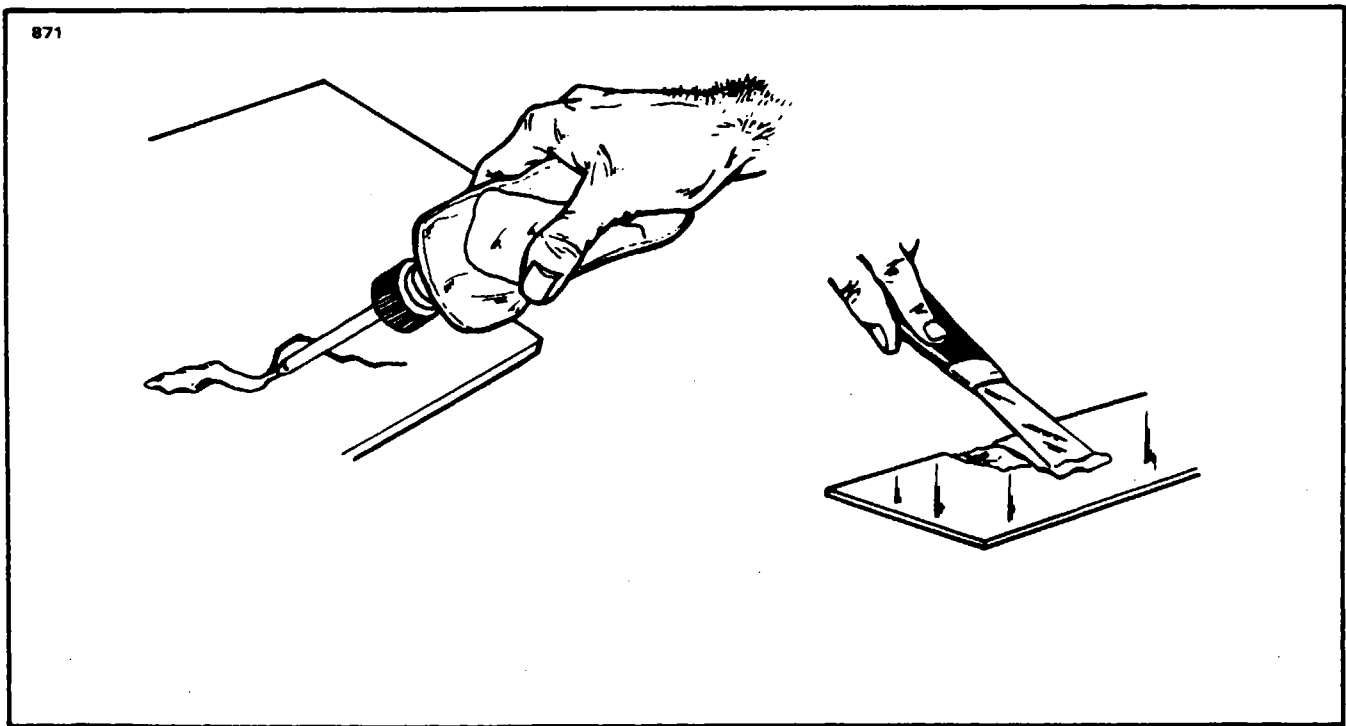

Figure 4-11. Deep Scratches, Shallow Nicks and Small Holes.
c. Deep Scratches, Shallow Nicks and Small Holes: (Less than 1 inch in diameter.) (Refer to Figure 4-11.)